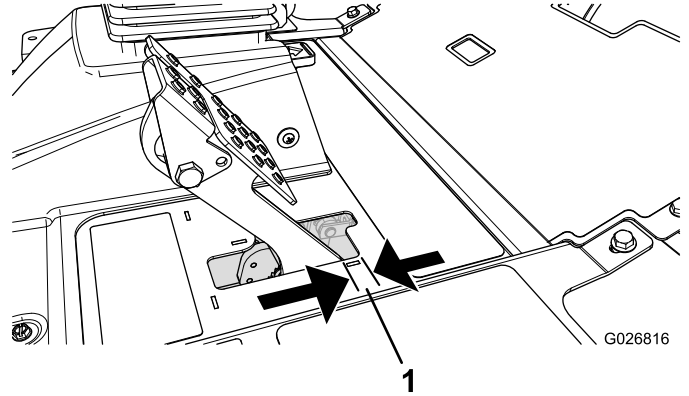

Figure 68
Adjust the brakes when there is more than 2.5 cm (1 inch) of free travel (Figure 68) of the brake pedal, or when more holding force is required. Free travel is the distance the brake pedal moves before you feel braking resistance.
2. Tighten the rear nut to move the cable backward until brake pedals have 6.3 to 12.7 mm (1/4 to 1/2 inch) of free travel (Figure 68), before wheel lock-up is achieved.